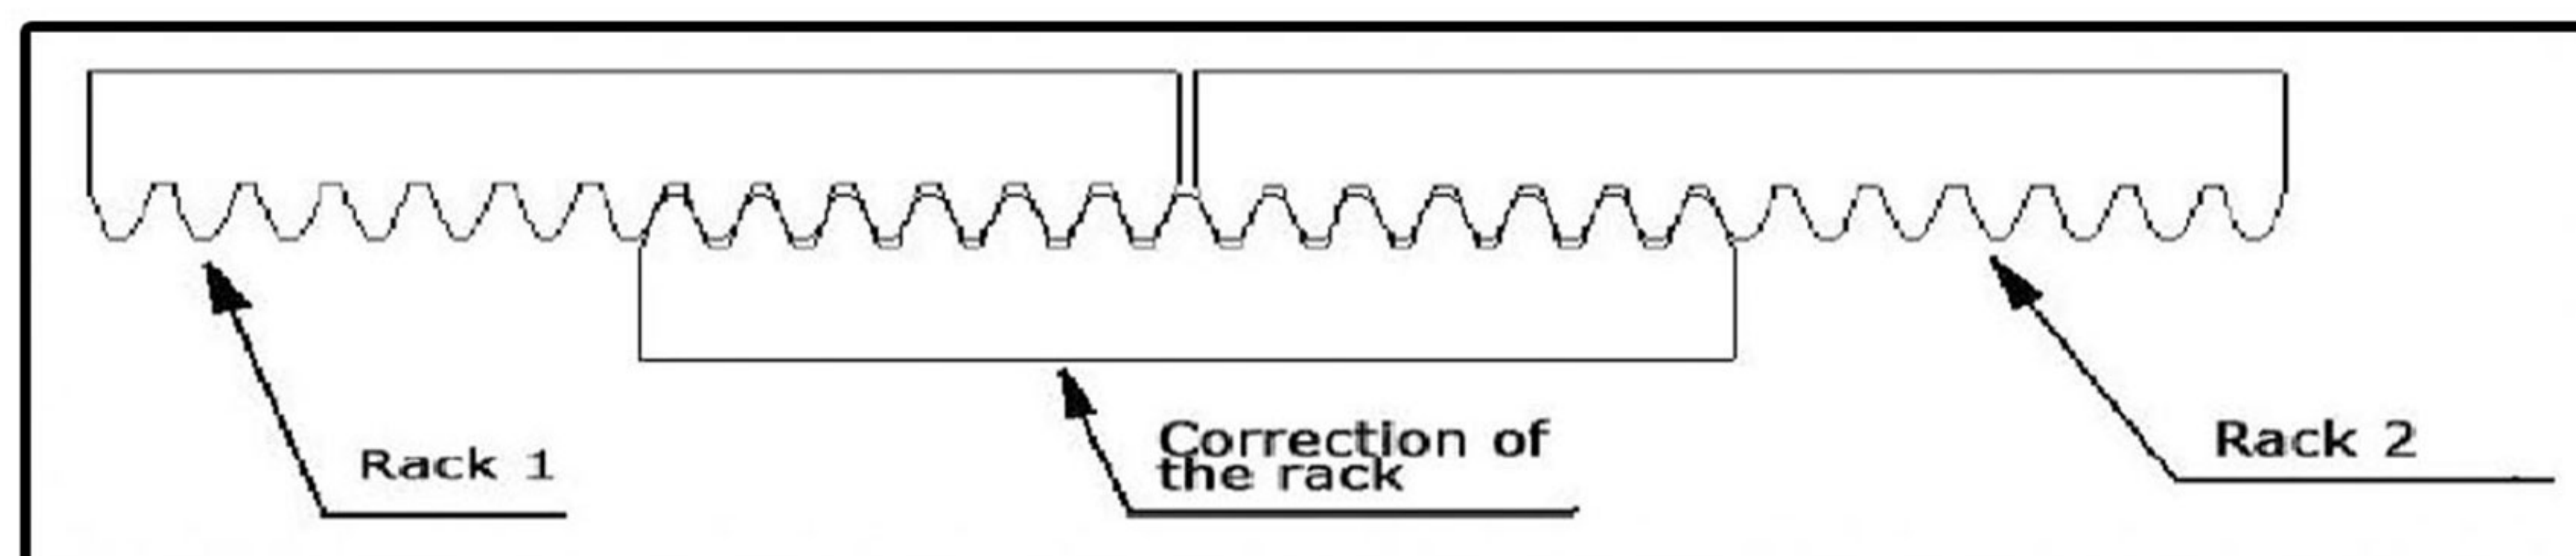

Figure 4
2. In order to avoid gate run jitter or jam, rack and joint clearance must be corrected. As suggested, see Fig 4. With a small correction, after connecting right with racks 1 and racks 2 ,then fixed racks 1 and 2.